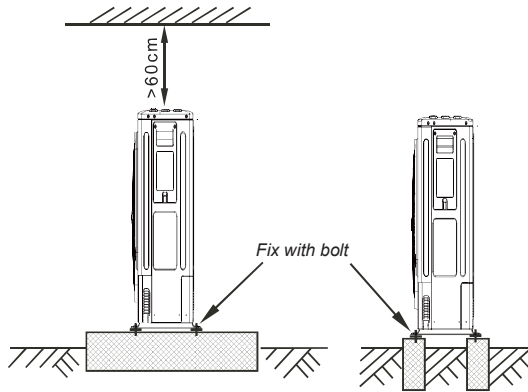

Fig. 3-7
- Make concrete foundation according to the specifications of the outdoor units.(refer to Fig.3-7)
- Fasten the feet of this unit with bolts firmly to prevent it from collapsing in case of earthquake or strong wind. (refer to Fig.3-7)